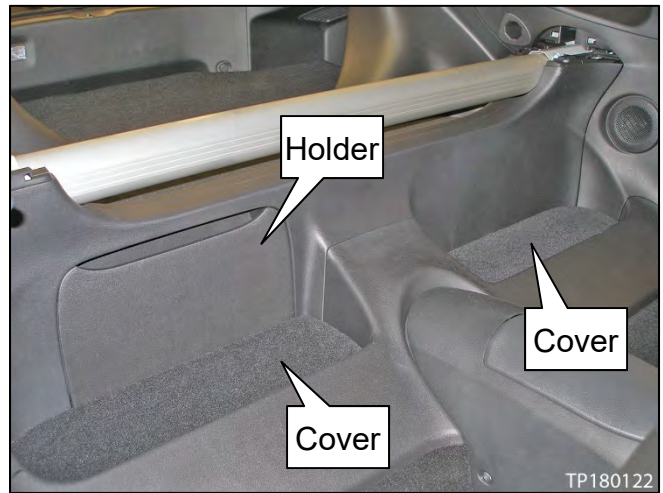

Figure 18
17. Remove the rear parcel shelf finisher holder (see Figure 18 and 19).
18. Remove the LH and RH rear parcel shelf covers using a suitable plastic pry tool (See Figure 18 and 20).